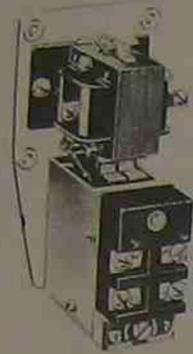
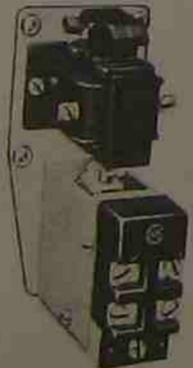

Figure 12-4 OM Delay Timer
Figure 12-7 OFF Delay Timer (Courtesy of Allen-Bradley.)
To summarize the ON delay timer, the delay in contact operation begins *after* the timer coil has been energized, or turned *ON*. When the timer coil is deenergized, or turned *OFF*, the contacts go back to their normal condition instantly. Figure 12-4 shows a pneumatic timer with the solenoid unit mounted for ON delay.
For a pneumatic timer to time when power is removed from the relay coil (**OFF delay**), the solenoid unit is mounted as shown in Figure 12-7. With a spring holding the armature up, no weight is applied to the bellows assembly, and the bellows are filled with air in a fully extended position.
**Note:** Compare Figure 12-4 (the ON delay) with Figure 12-7 (the OFF delay) to clearly see the difference in the mounting of the solenoid assemblies.